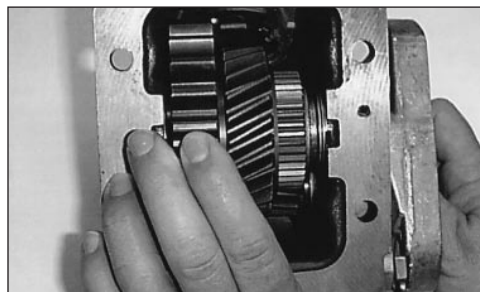

Fig. 4
3. Using your hand, rock the P.T.O. driver gear in the transmission (Fig. 3) and the driven gear in the P.T.O. assembly (Fig. 4). Rocking the gears provides two important factors.